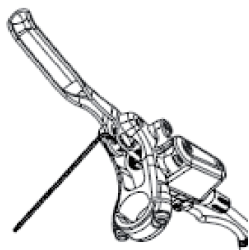

Figure 3-1 Grip Adjustment Screw Adjustment Methods
① When using a 2mm hexagonal spanner to make adjustments, turn clockwise to increase the grip distance (up to 100mm), and counterclockwise to decrease the grip distance (down to 80mm, as shown in Figure 3-1).
② If you turn the 2mm hexagonal spanner after adjusting the grip distance to the maximum (about 100mm) by turning clockwise, the aluminium piston of the brake lever will move forward and the handle will be easily pressed (the braking force will be increased at this time), but it may cause the function of the automatic oil replenishment to be ineffective.